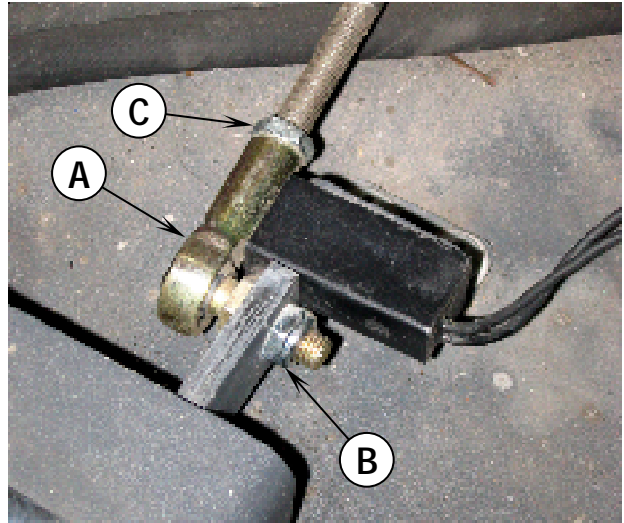

FIGURE 8
- 1 See Figure 8. Remove the Floor Weldment to access the Rod End (A).
- 2 Remove the Nyloc® Nut (B) and remove the Rod End (A) from the Brake Pedal Assembly.
- 3 Loosen the Jam Nut (C) and rotate the Rod End (A) in the appropriate direction to adjust the brake tension.
- 4 When the brake tension has been adjusted, tighten the Jam Nut (C).
- 5 Reinstall the Rod End (A) into the Brake Pedal Assembly, then reinstall and tighten the Nyloc® Nut (B).